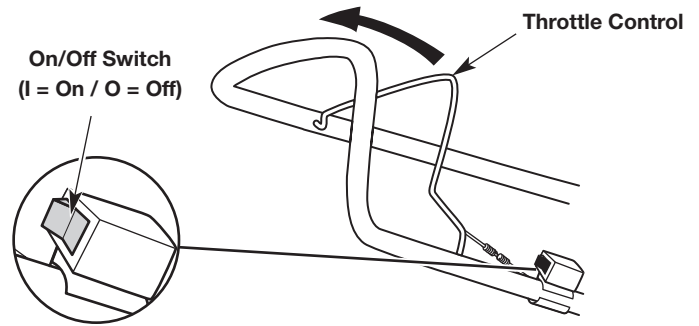

Fig. 5
NOTE: There is no need to turn the unit on. The On/Off switch is in the **On (I)** position at all times (Fig. 5).
NOTE: DO NOT squeeze the throttle control (Fig. 5) until step 7.
7. Squeeze the throttle control as needed for operation (Fig. 5).
2. Press and hold the On/Off switch in the **Off (O)** position until the engine comes to a complete stop (Fig. 5).